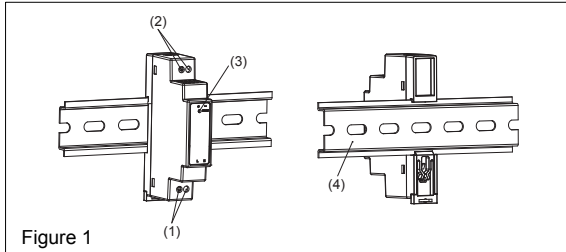

Figure 1
2. Device description (Fig. 1)
5.1. Input connection (Fig. 1 (1), Fig. 5)
Use L and N connections of input terminal connector (see Fig. 1 (1)) to establish the 100-240 VAC connection.
5.2. Output connection (Fig. 1 (2))
The green LED DC OK displays correct function of the output (Fig. 1 (3)). The device has a short circuit and overload protection and an over voltage protection limited to < 7.25VDC.